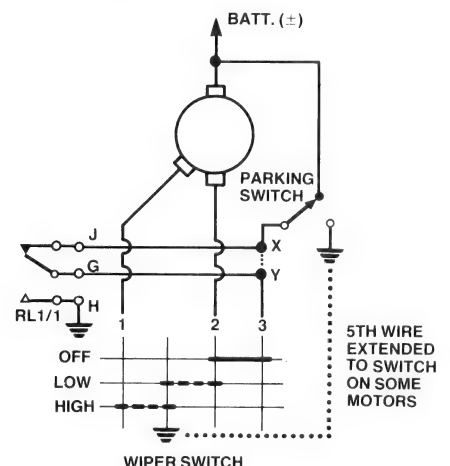

Figure 5. Wiring the relay contacts to a dual-speed permanent magnet wiper system.
A dual-speed permanent magnet system is illustrated in Figure 5. Here, the wire from the wiper switch to the parking contacts (3) is cut at X-Y and the wiper controller's *normally closed* contacts (J and G) connected across the cut. The normally open contact (H) is connected to chassis. If you need maximum wiper speed when using this system, simply use the wiper switch as you normally would.